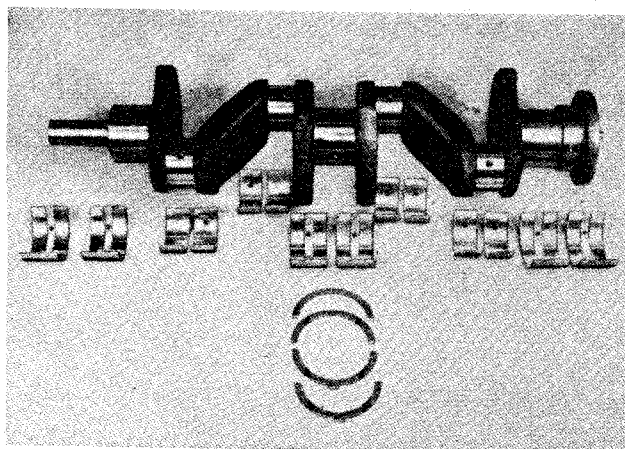

Fig. 8 Crankshaft, Bearings and Thrust Washers.
- (f) **The Crankshaft** (Fig. 8) is forged from molybdenum manganese steel, being provided with balance weights which are an integral part of the crankshaft throws, adjacent to the three main bearings.
## 4. **CRANKSHAFT AND MAIN BEARINGS (Fig. 8)**